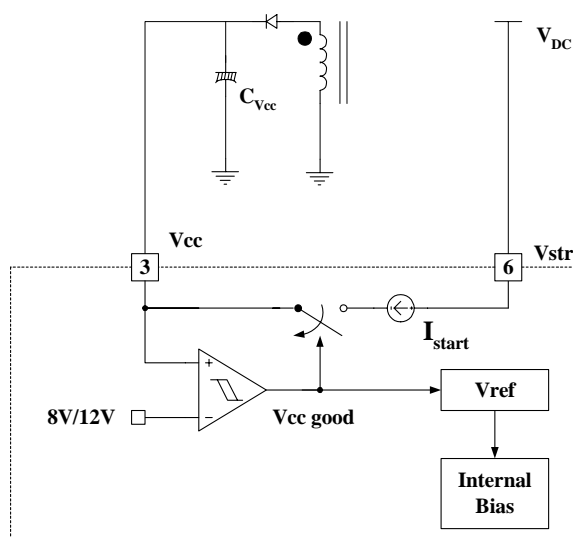

Figure 4. Internal startup circuit
**1. Startup** : In previous generations of Fairchild Power Switches (FPS™) the Vcc pin had an external start-up resistor to the DC input voltage line. In this generation the startup resistor is replaced by an internal high voltage current source. At startup, an internal high voltage current source supplies the internal bias and charges the external capacitor (CVcc) that is connected to the Vcc pin as illustrated in figure 4. When Vcc reaches 12V, the FPS™ begins switching and the internal high voltage current source is disabled. Then, the FPS™ continues its normal switching operation and the power is supplied from the auxiliary transformer winding unless Vcc goes below the stop voltage of 8V.